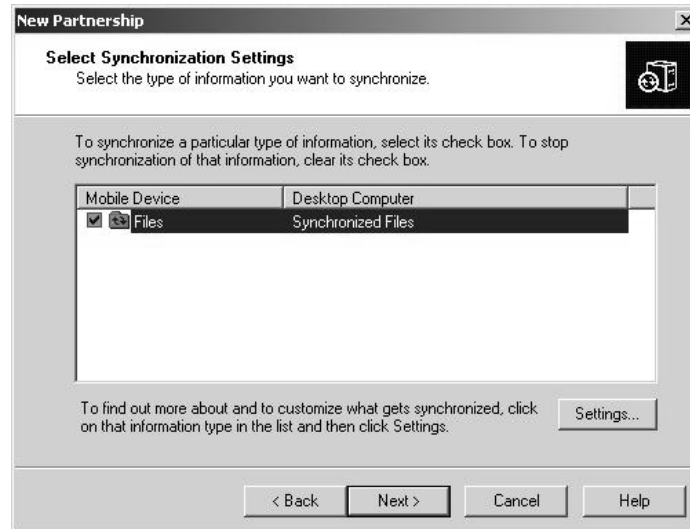

Figure 4-2 Select Synchronization Options
5. Select **Yes**, and then click **Next**. The Select Synchronization Settings options are displayed as shown in Figure 4-2
6. Select the **Files** option from the Select Synchronization Settings window, to synchronize the type of information. See Figure 4-2.